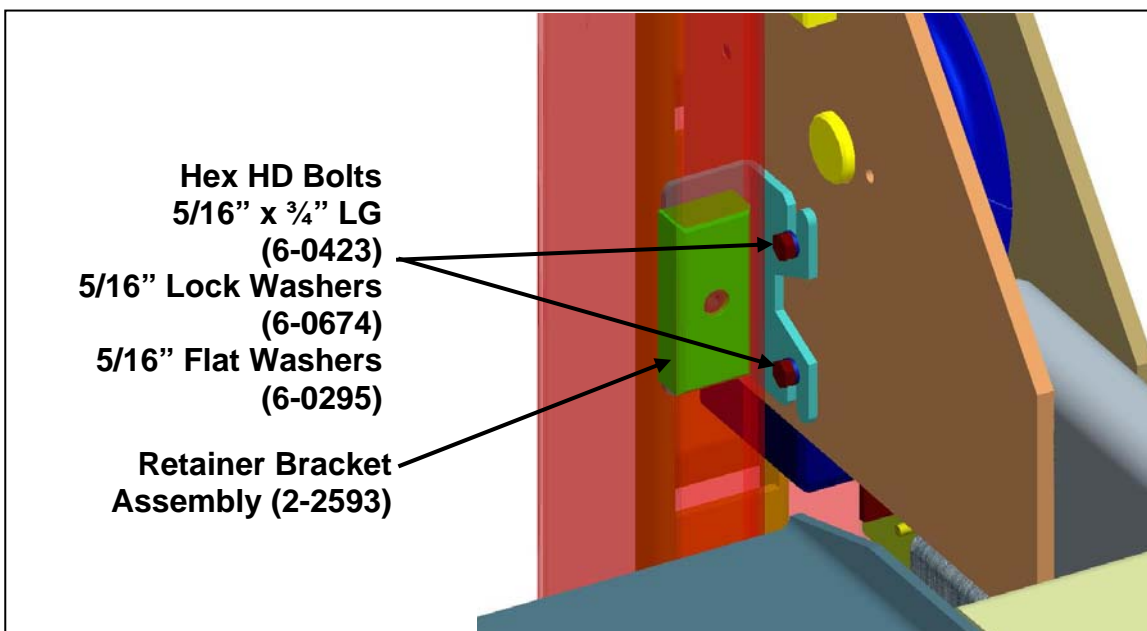

Figure 9. Retainer bracket installation
- Install the second 5/16”x 3/4” long hex head bolt and 5/16” lock washer and flat washer through the lower slot and into the bottom mounting hole in the crossmember. Tighten both of the bolts. See Figure 9.